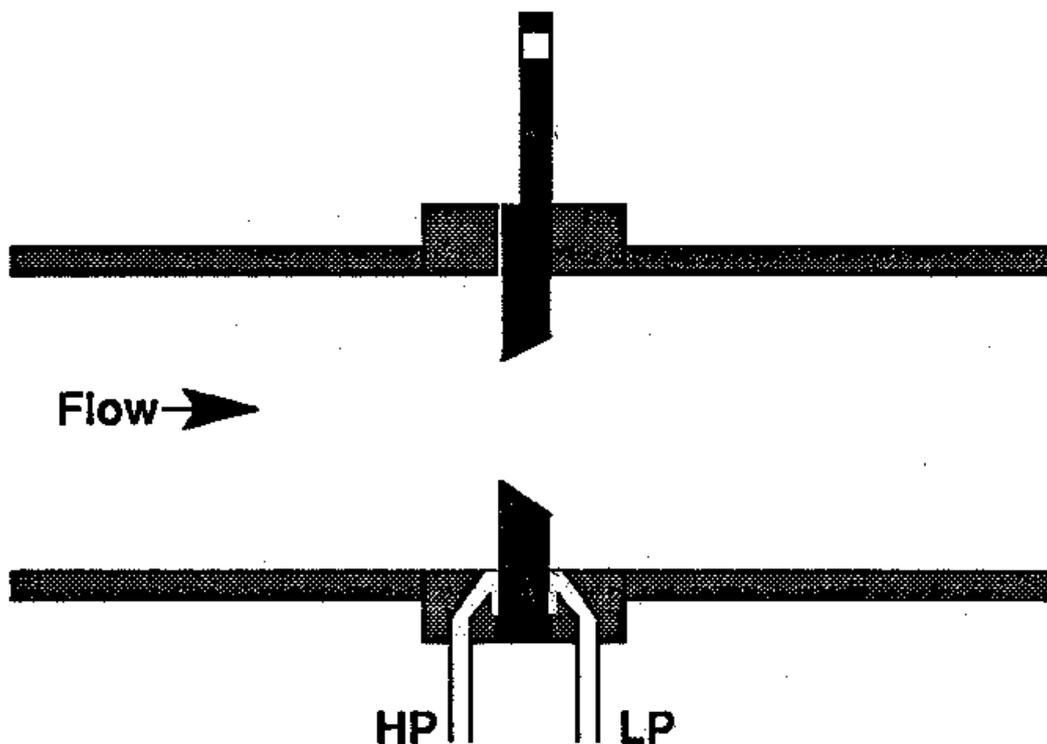

Figure 5: Orifice Plate with Corner Taps.
- **Corner taps** which are located right at the upstream and downstream faces of the orifice plates (Figure 5).